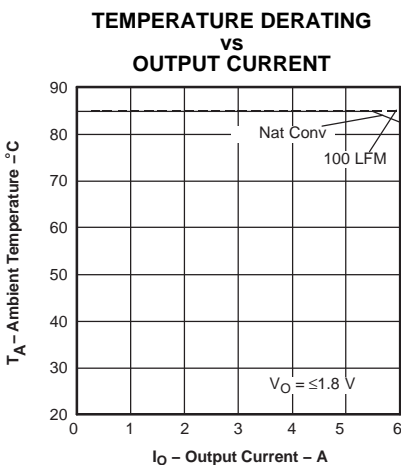

Figure 9.
- (2) SOA graphs represent the conditions at which internal components are at or below the manufacturer's maximum operating temperatures. Derating limits apply to modules soldered directly to a 4 inches × 4 inches double-sided PCB with 1-oz. copper. For surface mount packages (AS and AZ suffix), multiple vias (plated through holes) are required to add thermal paths around the power pins. Please refer to the mechanical specification for more information. Applies to Figure 9.